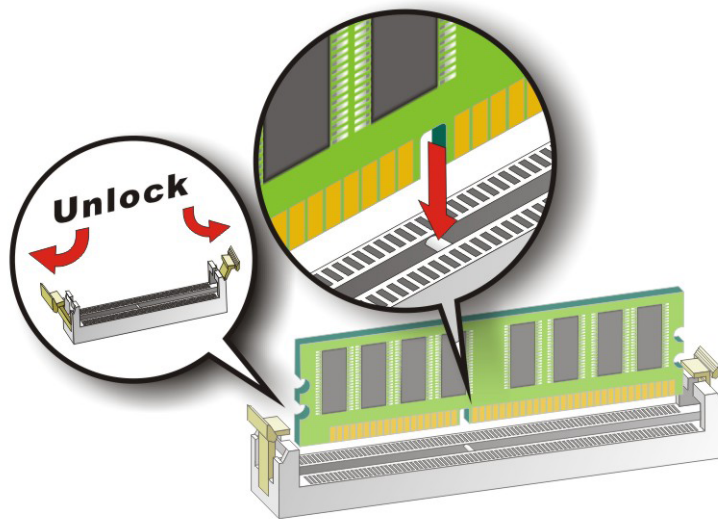

Figure 5-6: Installing a DIMM
To install a DIMM into a DIMM socket, please follow the steps below and refer to **Figure 5-6**.
- Step 1:** **Open the DIMM socket handles.** The DIMM socket has two handles that secure the DIMM into the socket. Before the DIMM can be inserted into the socket, the handles must be opened. See **Figure 5-6**.
in the socket. See **Figure 5-6**.
Step 3: Insert the DIMM. Once properly aligned, the DIMM can be inserted into the socket. As the DIMM is inserted, the white handles on the side of the socket will close automatically and secure the DIMM to the socket. See **Figure 5-6**.